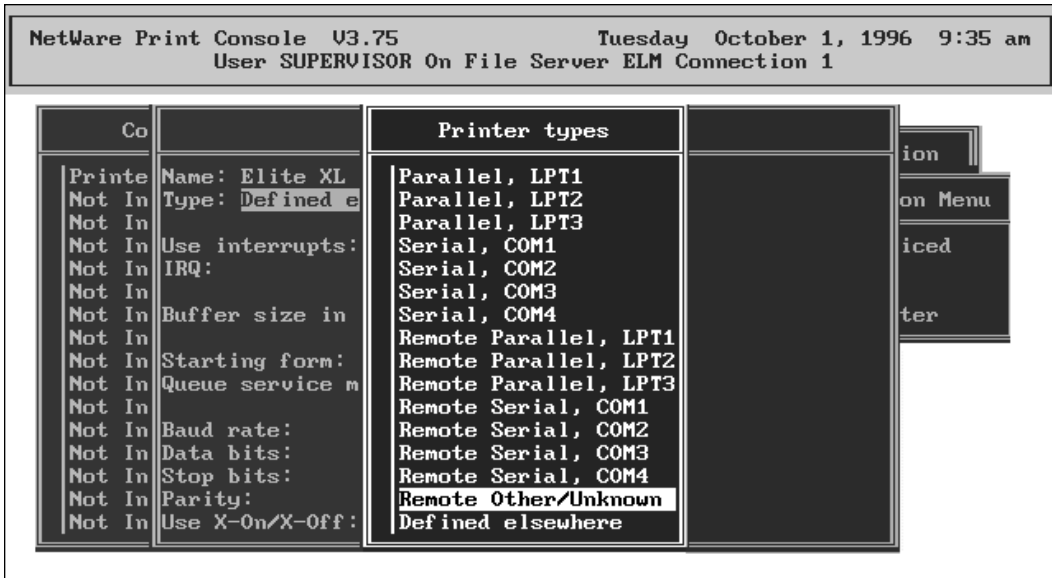

Figure 2. Selecting "Remote Other/Unknown" from the list of Printer types.
13. You must configure the printer as printer zero (0) so choose this option from the menu and press **Enter**.
15. You will see a list of Printer Types (as in figure 2). The Elite XL must be defined as **Other Remote/Unknown**. Select this option from the list.